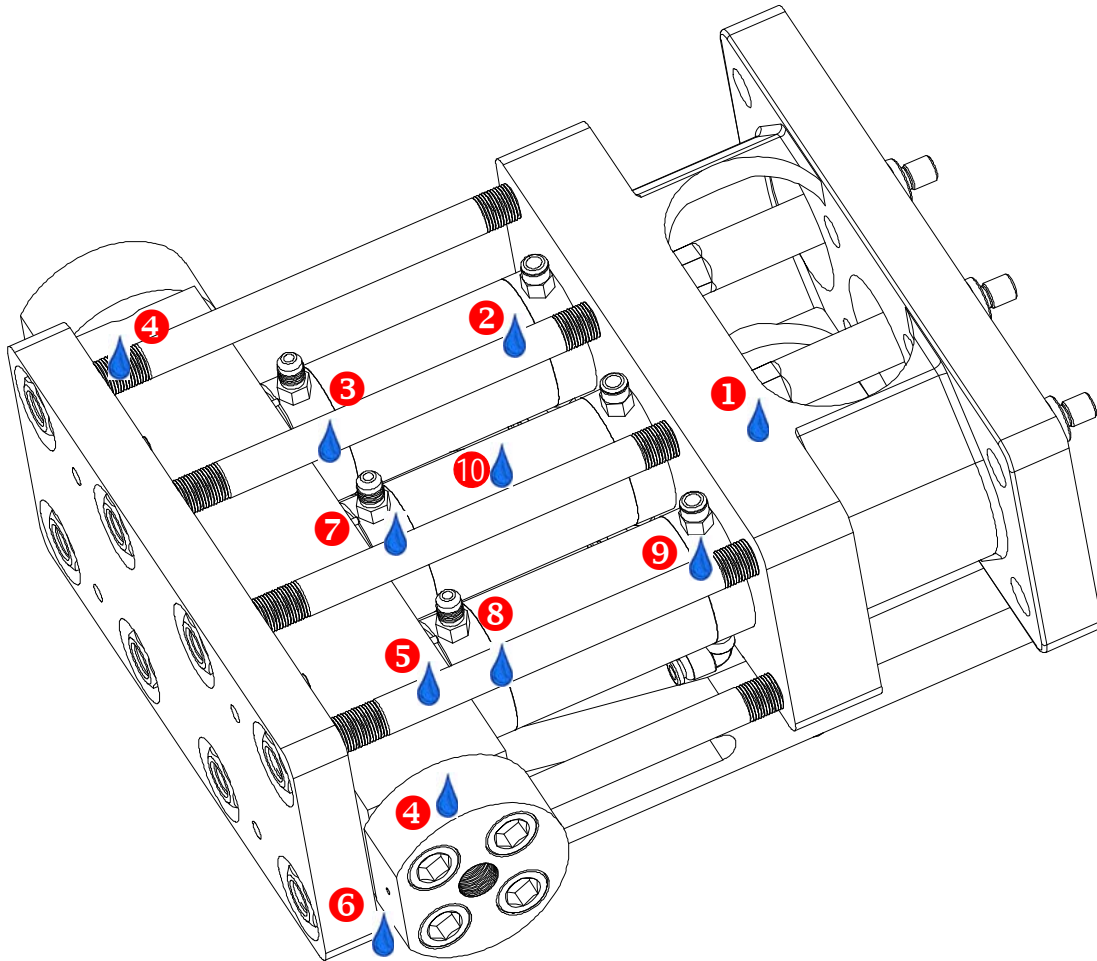

Figure 8-8: Sources of Water Leaks in the Wet End Assembly
5. Check for water leakage between the manifold and check valve bodies, and between the cylinders and check valve bodies (refer to Figure 8-8). If leaking, remove and disassemble the wet end, inspect and clean all parts, and replace seals.
This section identifies the location of possible water leaks in the wet end assembly (Figure 8-8) and suggests possible ways to correct them.
Troubleshooting Leaks in the Pump Wet End Assembly: (refer to Figure 8-8)